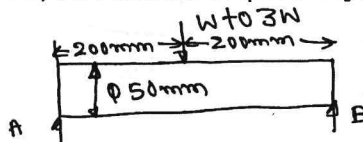

Fig.Q4(b)
- b. Determine the maximum load for the simply supported beam, cyclically loaded as shown in Fig.Q4(b). The ultimate strength is 700 MPa. The yield point in tension is 520 MPa and the endurance limit is reversed bending is 320 MPa. Use a factor of safety of 1.25. The load, size and surface correction factors are 1, 0.75 and 0.9 respectively. (15 Marks)